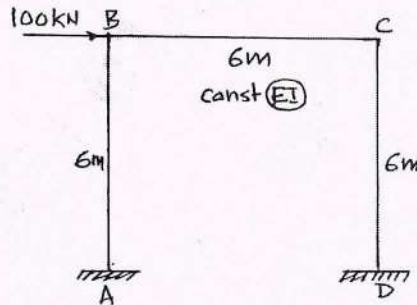

Fig.Q2
- 2 Analyze the frame shown in Fig.Q2. Using slope deflection method. Also draw BMD and sketch the elastic curve.